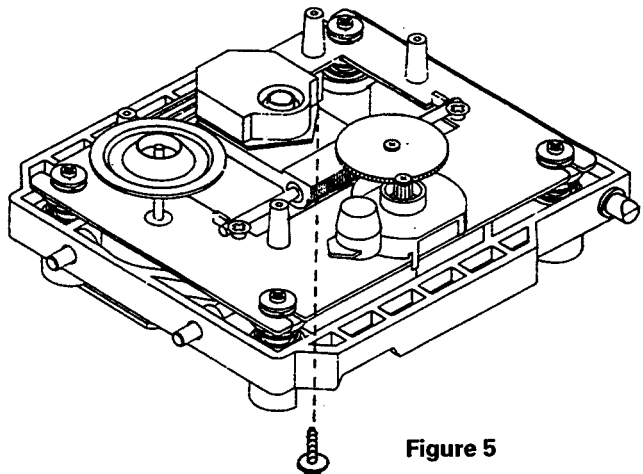

Figure 5
3. Remove 1 screws (See Figure 5).